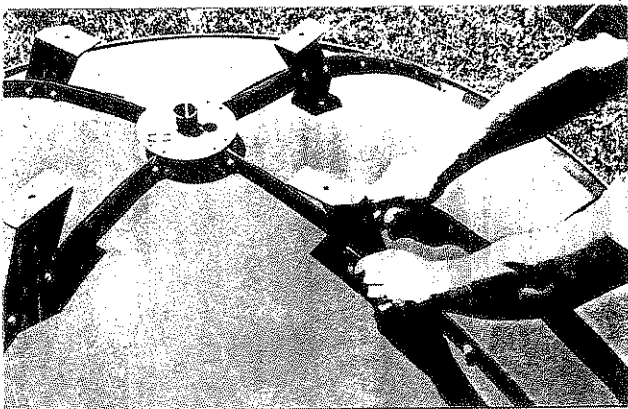

FIGURE 8
STEP 5. Attach mounting bracket to rib at second and third bolt hole from center of reflector. Do Not Tighten bolts. (Figure 8)